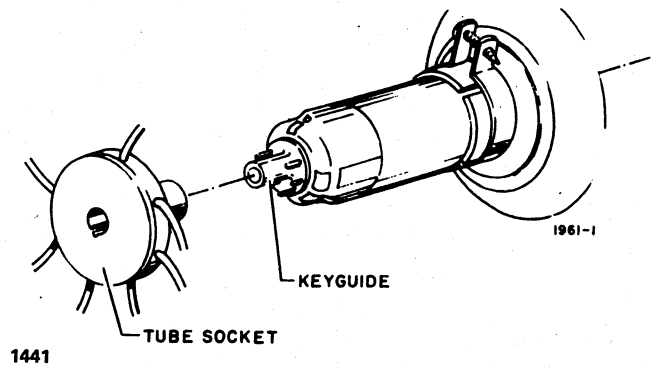

Figure 6-24. CRT Tube Socket Removal
6. Pull the CRT tube socket carefully off the end of the CRT (figure 6-24). Do not remove the vinyl keyguide.